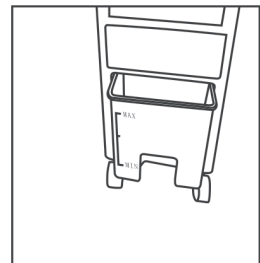

fig.3
- Water level must be between MIN and MAX line. (Fig. 3)